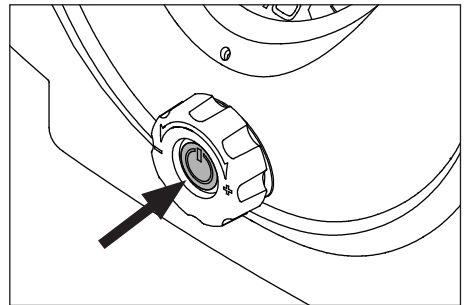

Figure 5 - Power Button
4. Turn pressure selector dial to the "LO" setting (LO setting is just below 20 psi setting). (See Figure 5).
4. Turn the pressure selector dial until desired pressure is reached. (See Figure 5).